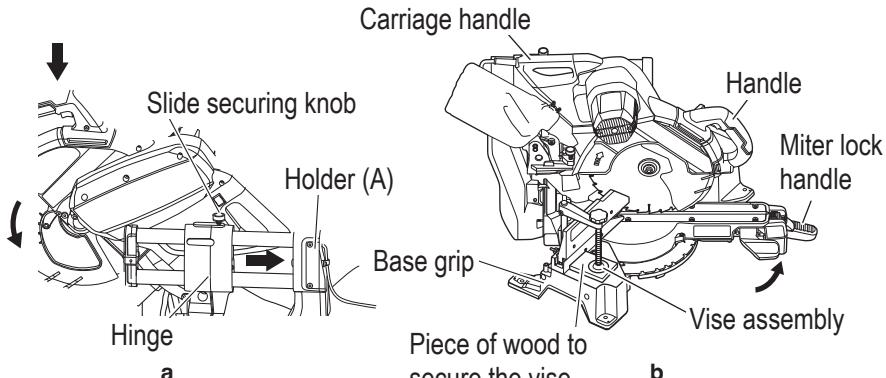

Fig. 35
The vice assembly could be dropped during transportation. Either remove the assembly or slip a piece of wood between the vice to firmly secure it. (Fig. 35-b)
Also screw in the slide securing knob so that the hinge is positioned to hit the holder (A) and secure the head. (Fig. 35-a)
Lift up the miter lock handle, turn the turntable as far right as it will go, and secure the turntable by press down the miter lock handle to the fixed position. This will make the main body even more compact. (Fig. 35-b)